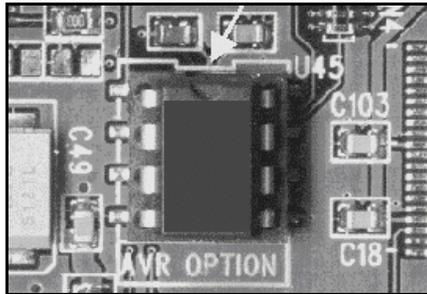

Figure 13. Chip and Socket Alignment
5. Align the new chip over the socket with the keyed sides together and the legs over the socket holes. The arrow in Figure 13 indicates a chip and socket with keys aligned.
4. Align the new chip over the socket with the keyed sides together and the legs over the socket holes. The arrow in Figure 13 indicates a chip and socket with keys aligned.